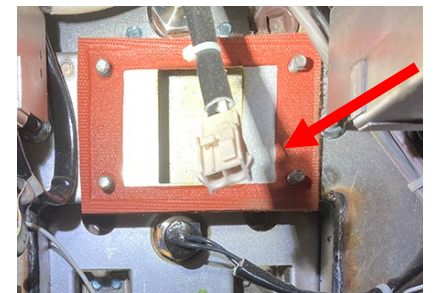

Figure 82
- 81. Ensure all wiring is out of the way of the blower mount and install the blower gasket (see Figure 82).